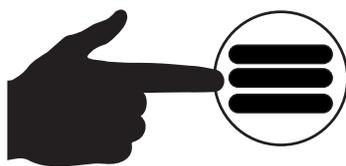

Figure 137. Main Menu Button
- 27. Press the **Main Menu button** (Figure 137) on **generator #2**.
- Press the **Main Menu** button (Figure 137).